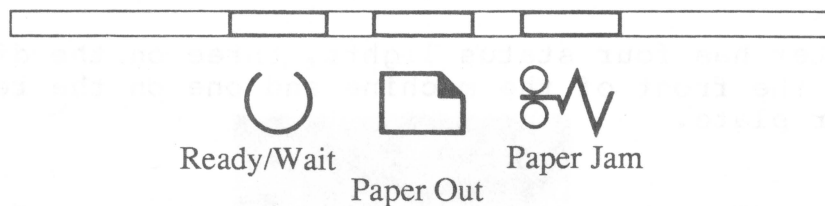

Figure 1-10 : Display panel LEDs
2. Display panel LEDs (Figure 1-10):